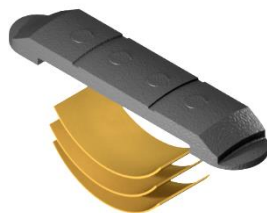

Fig. 2
**NOTE6:** Uses three (3 ea) springs per drag block (Fig. 2).